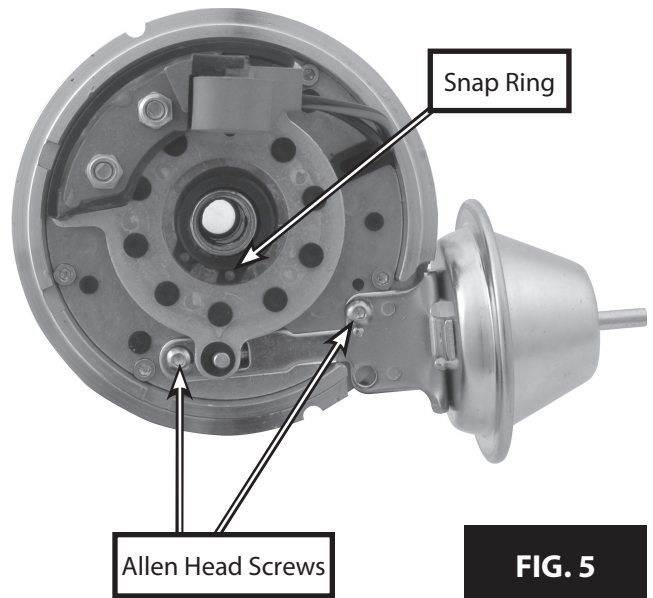

FIG. 5
4. First remove the two Allen head screws that secure the advance canister to the distributor. See Figure 5.
5. Using a pair of snap ring pliers, remove the snap ring that holds the magnetic pickup plate in place. See Figure 5.